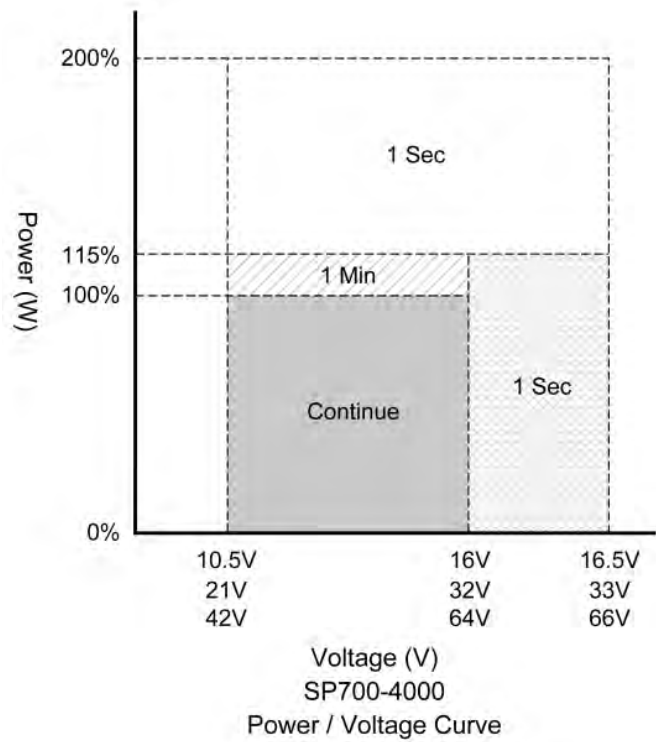
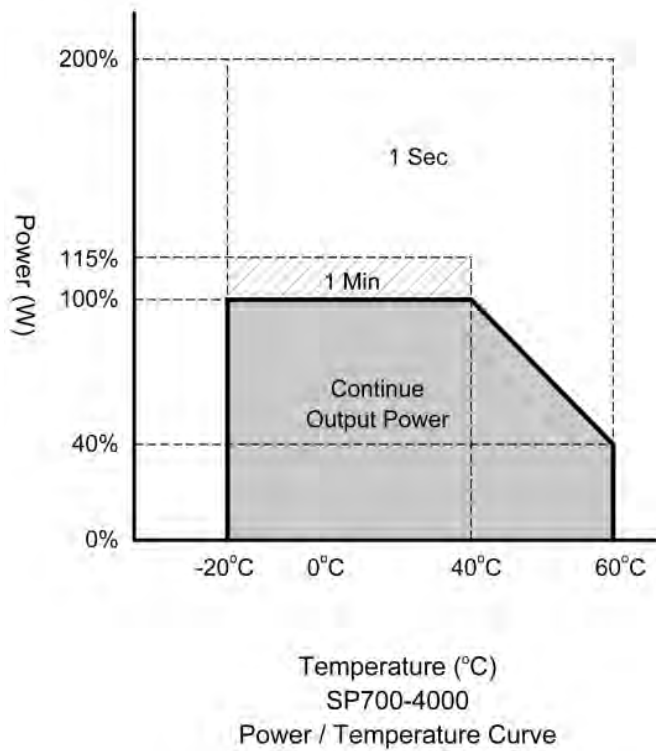

Figure 1. Output power vs. input voltage
Figure 2. Output power vs. temperature
- ① Voltage range : Please refer to Figure 1
- ② Normal load Condition : $V_{in} = 12.5V/25V/50V$, $V_o = 200/220/230/240$ VAC 80% Full load (PF=1.0)
- ③ Operating temperature : Please refer to Figure 2
- ② Normal load Condition : Vin =25V/50V, Vo=100/110/115/120 VAC 80% Full load (PF=1.0)
- ② Normal load Condition : Vin =25V/50V, Vo=200/220/230/240 VAC 80% Full load (PF=1.0)